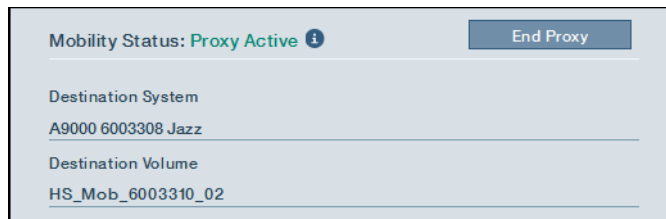

Figure 3-28 End the IBM Hyper-Scale Mobility proxy
2. Select End Proxy, as shown in Figure 3-28.